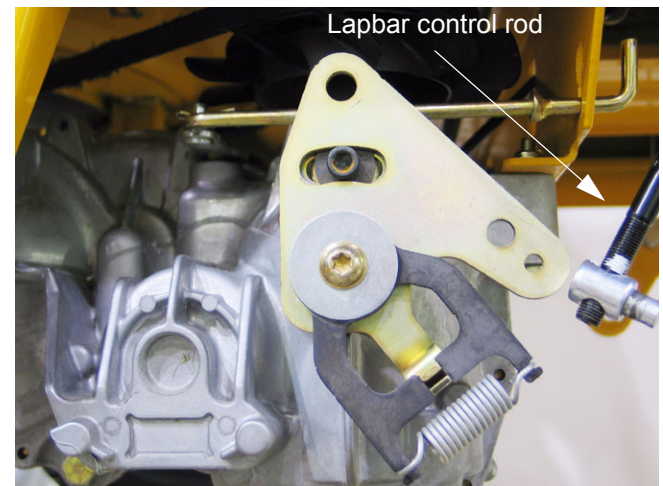

Figure 14.7
- 14.7. Disconnect the lapbar control rods from the return to neutral brackets. See Figure 14.7.